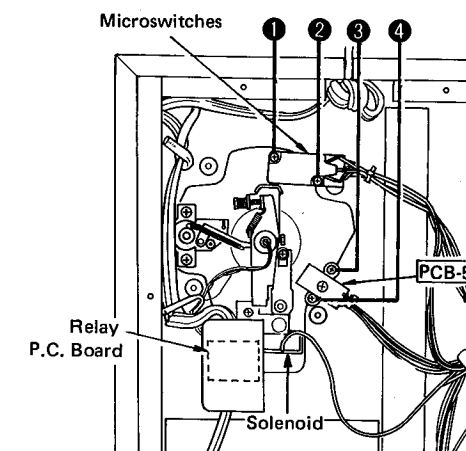

Fig. 5
2. Remove screws 1 and 2 in Fig. 5 and remove the microswitches.
3. Remove screws 3 and 4 in Fig. 5 and remove the PCB-5.